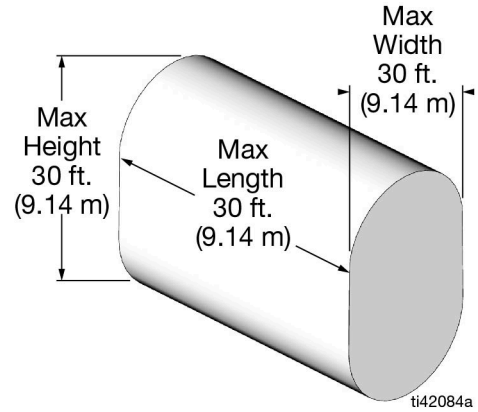

FIG. 19
- Tank end walls must be flat; they cannot be any other shape including belled (FIG. 19). If applicable, use non-standard tank.